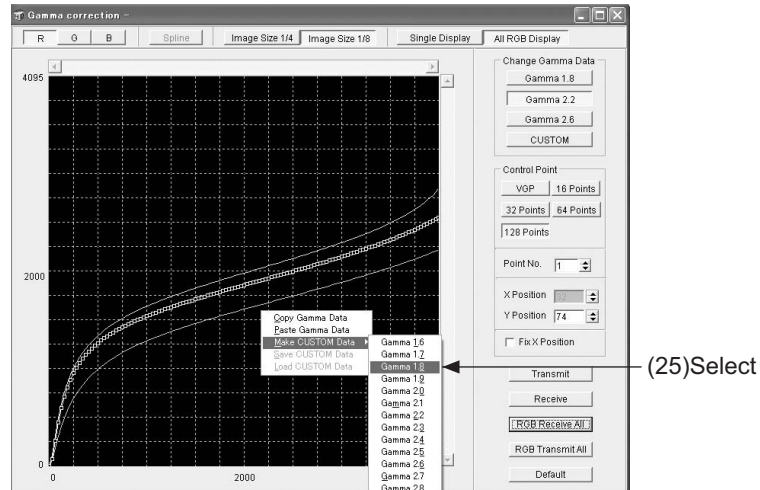

Fig.6
(25) Right-click on the [Gamma2.2] curve in the [Gamma correction] screen. Select [Make CUSTOMData] and the [Gamma1.8] to allow the Gamma1.8 data to be input to [CUSTOM]. Refer to Fig.6.